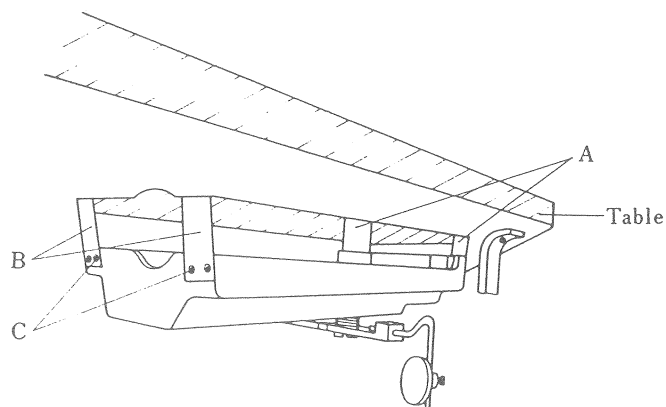
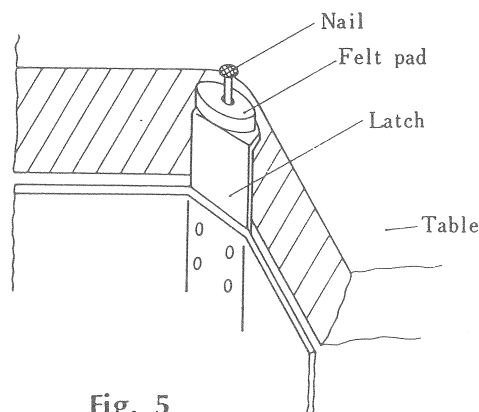

Fig. 4
Fig. 5
To assemble oil pan, remove latches (B.C., Fig. 4) and four screws (1, 2 Fig. 4), hang both ends of latches (A) to cut-out of table and tighten latches B and C by said four screws. Then, place felt pads on cut-outs at four corners and nail them to cut-outs (Fig. 5) respectively.